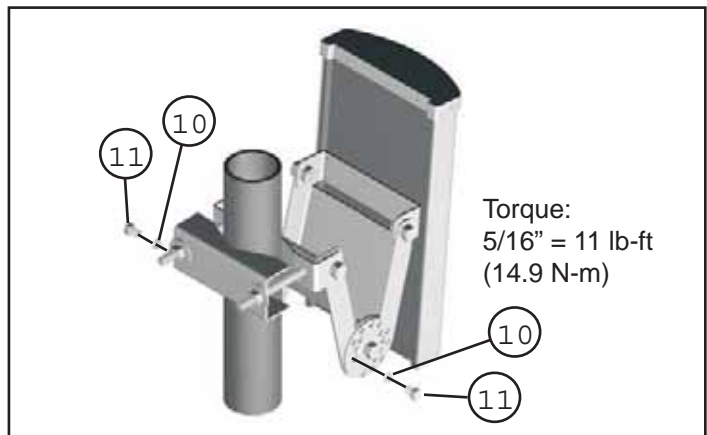

Figure 7. Securing the Downtilt Positioning Bracket.
5. Use the 5/16 inch hardware as shown in Figure 7 to secure the downtilt positioning. Tighten hex head bolts (Item 11) to 11 lb-ft (14.9 N-m).